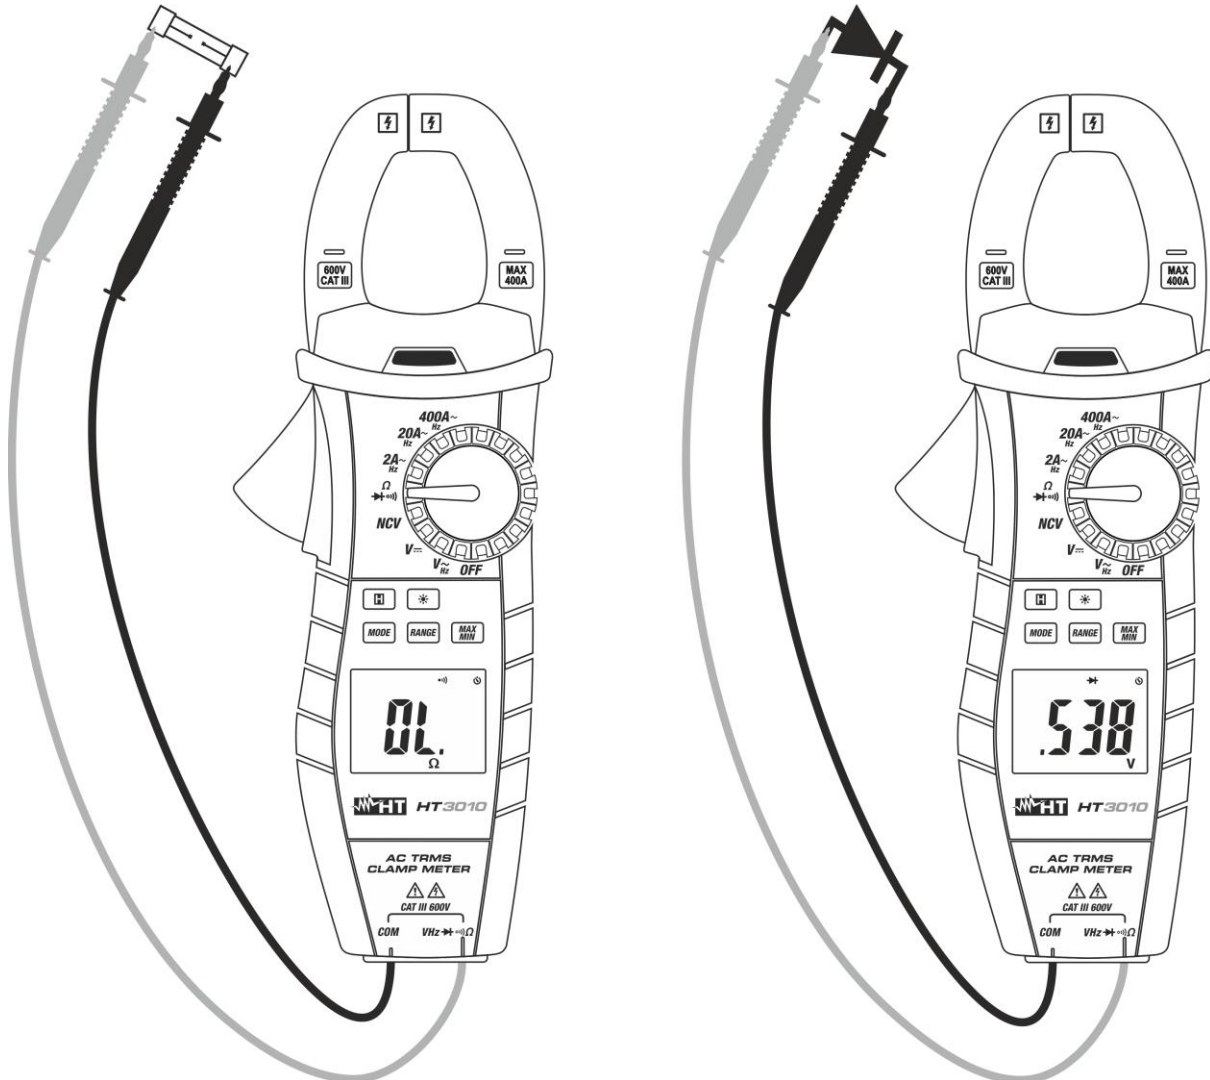

Fig. 7: Use of the instrument for continuity test and diode test
3. Insert the red cable into input terminal $V\Omega Hz \rightarrow \text{diode symbol}$) and the black cable into input terminal **COM** and carry out the continuity test of the object to be measured (see Fig. 7– left side). An buzzer sounds when the measured value of resistance is lower than 30Ω
5. Connect the red lead to the anode of the diode and the black lead to the cathode in case direct polarization measurement is carried out (see Fig. 7 – right side). Invert the position of the leads in case reverse polarization measurement is carried out.